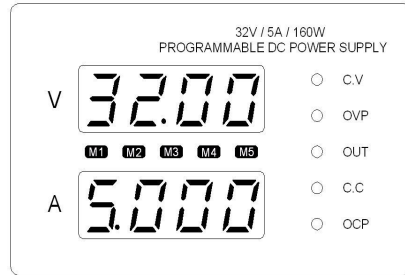

FIG.5 Storage status
- (1). Storage operation, first set the preset voltage, current, specific settings can be when used with reference to the normal voltage and current settings methods, voltage and current settings End After, After Press the second function enable key (SHIFT) on the panel, the show has been stored voltage and current values, see FIG.5